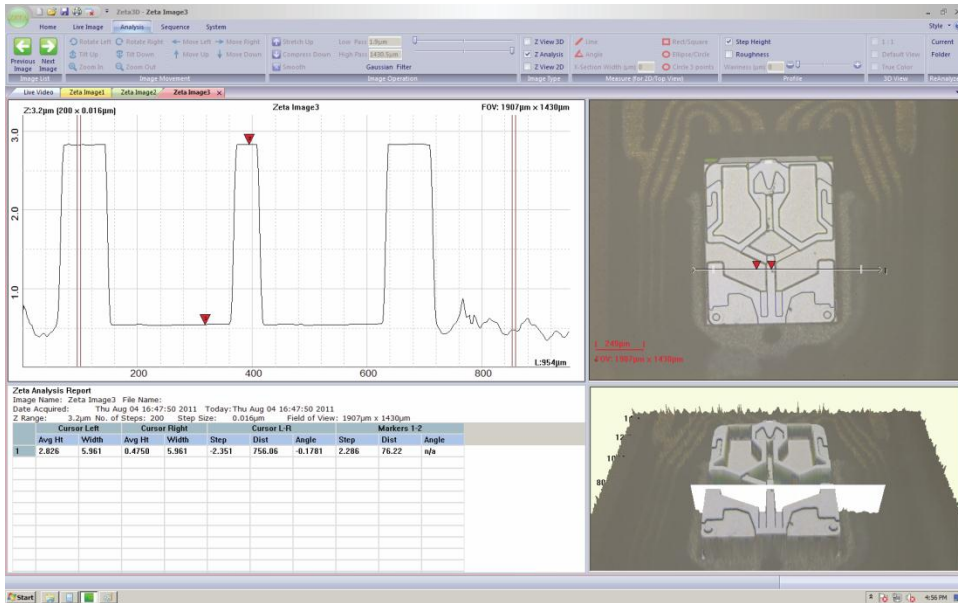

Fig. 49. Result of interferometer scan
10. Start the scan. You will see the fringes move in the live video image during the scan. The resulting 3D image can be stored and analyzed like a conventionally scanned image. An example is shown in Fig. 49.